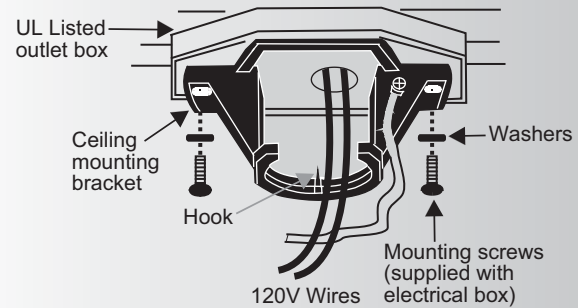

Fig. 5
Step 1. Pass the 120 volt supply wires from the ceiling outlet box through the center of the ceiling mounting bracket. (Fig.5)
Step 2. Attach the ceiling mounting bracket to the outlet box using the screws and washers included with the outlet box. (Fig. 5)